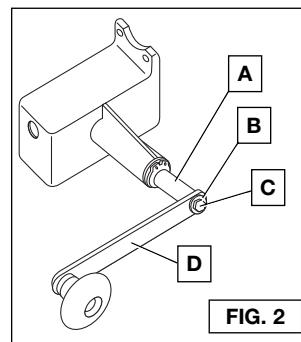

FIG. 2
The unit is shipped with the crank handle disassembled. Remove the bolt and washer (B and C) Fig. 2. Place the crank handle (D) on the crank shaft (A) with the crank knob facing out and the "D"-shaped hole in handle aligned with the flat on the shaft. Place the bolt (C) through the washer (B) and thread it into the shaft (A). Tighten securely.